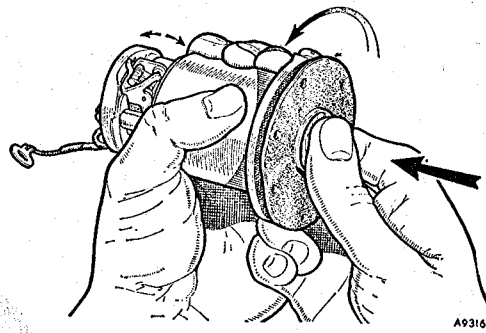

Fig. 6. Setting the diaphragm. Unscrew until the rocker just 'throws over'
11. Holding the coil housing assembly in the left hand in an approximately horizontal position (see Fig. 6), push the diaphragm spindle in with the thumb of the right hand, pushing firmly but steadily. Unscrew the diaphragm, pressing and releasing with the thumb of the right hand until the rocker just 'throws over'. Now turn the diaphragm back (unscrew) to the nearest hole and again 4 holes (two-thirds of a complete turn). The diaphragm is now correctly set.